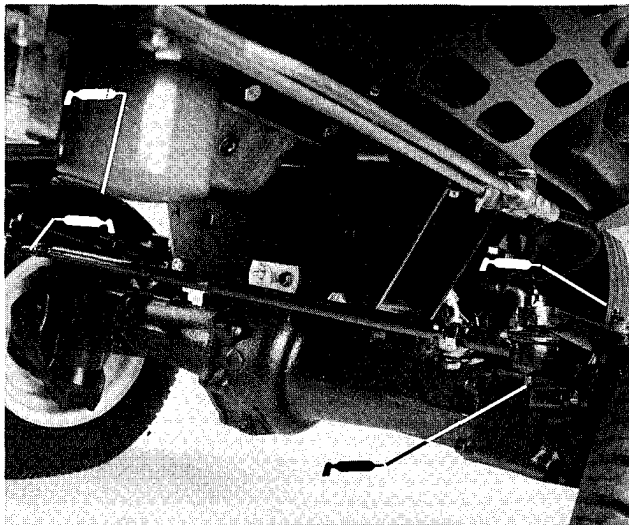
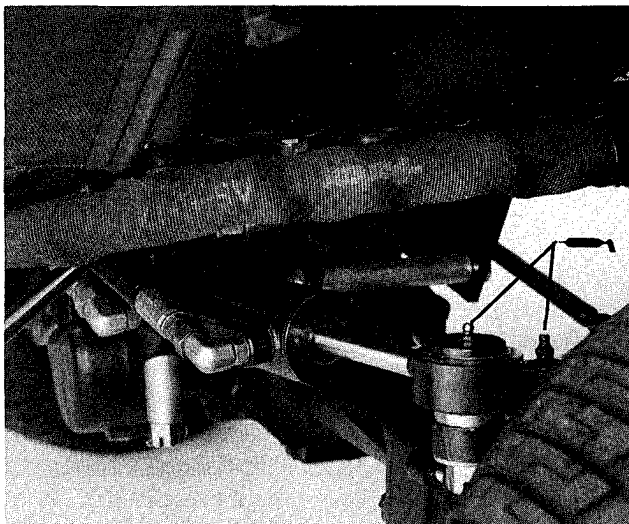

Figure 29
Figure 30
4 wheel drive machines only – tie rod assembly (2), center pivot (1), axle knuckles (2) (Fig. 29); cylinder ends (2) (Fig. 30).